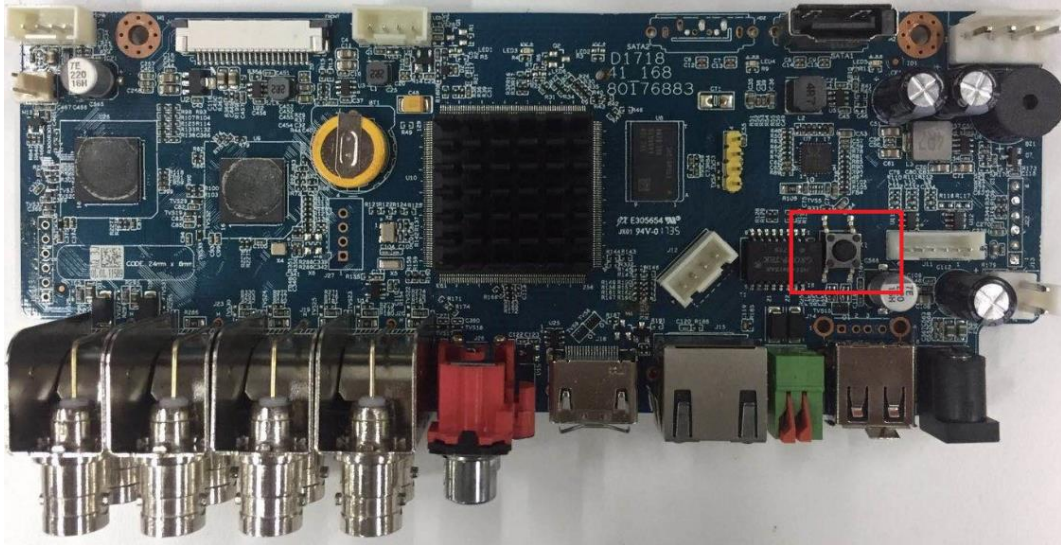

Figure 5-14
Step 2 Find the reset button on the mainboard, and then press and hold the reset button for 5 seconds to 10 seconds. See Figure 5-14 for the location of the reset button.